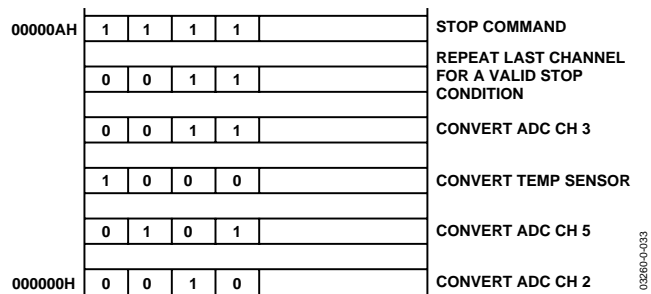

Figure 34. Typical DMA External Memory Preconfiguration
3. The external memory must be preconfigured. This consists of writing the required ADC channel IDs into the top four bits of every second memory location in the external SRAM, starting at the first address specified by the DMA address pointer. Because the ADC DMA mode operates independently from the ADuC841/ADuC842/ADuC843 core, it is necessary to provide it with a stop command. This is done by duplicating the last channel ID to be converted followed by 1111 into the next channel selection field. A typical preconfiguration of external memory is shown in Figure 34.